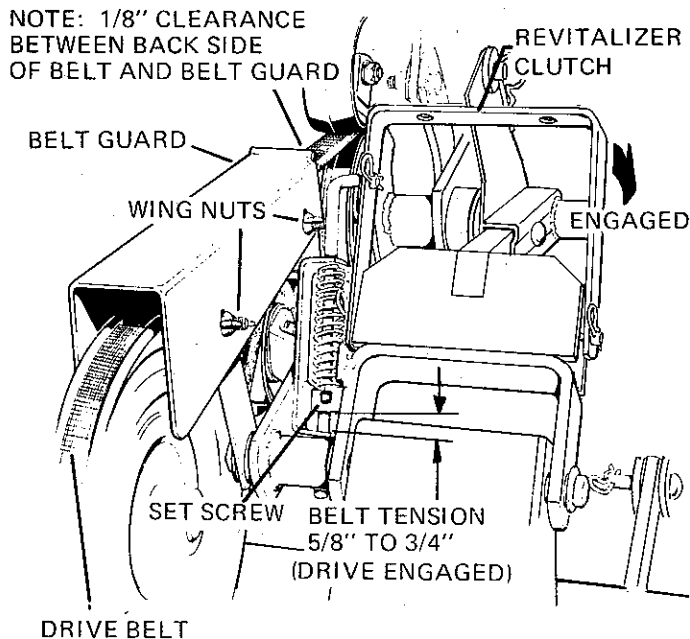

FIGURE 7
(See figure 7) The Revitalizer drive is engaged by pulling forward on the clutch lever mounted on the revitalizer. This can be done from the tractor seat simply by reaching around and pulling the clutch ahead. The revitalizer will be disengaged if the lever is pushed back, away from the tractor.
(See figure 7) Tension on the revitalizer drive belt is regulated by the position of the set collar in the rod guide assembly of the revitalizer clutch. Belt tension is correct when there is 5/8" to 3/4" clearance between the set collar and the lower end of the rod guide assembly when the revitalizer clutch is engaged. To increase belt tension, disengage the revitalizer clutch and loosen the set screw in the collar. Move the rod down slightly to reposition it under the set collar and retighten the set screw. Check the clearance by engaging the revitalizer clutch. Do not operate the revitalizer with more than 3/4 inch clearance between the set collar and rod guide as the excessive tension may cause premature belt and bearing failure.
(See figure 7) The belt guard mounted over the revitalizer drive belt should be adjusted so there is at least $1/8$ " clearance between the guard and the belt when the revitalizer clutch is engaged to assure the backside of the belt does not rub against the guard. If it is necessary to adjust the guard, loosen the two wingnuts and reposition the guard correctly.
3. (See figure 7) Remove the two wingnuts holding the belt guard in place over the drive belt. Remove the belt guard.
6. (See figure 7) Place the new belt over the revitalizer pulley and replace the belt guard.